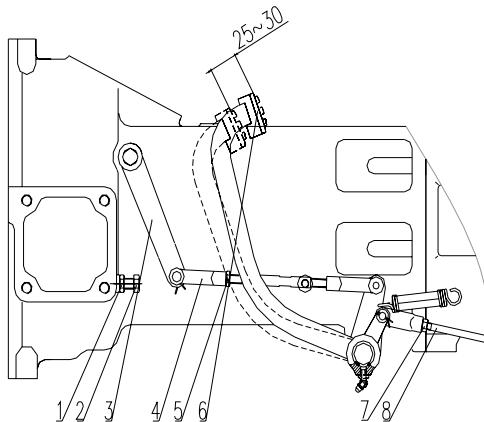
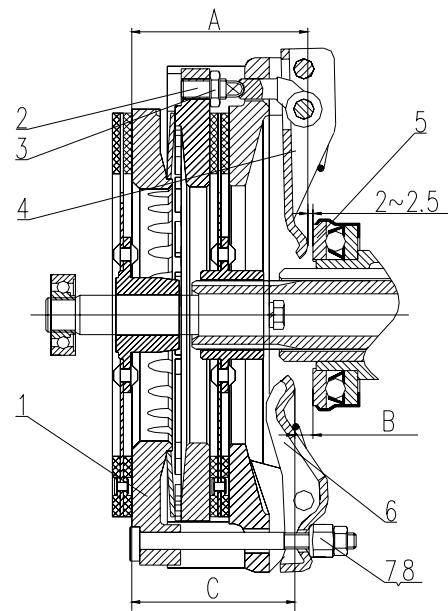

Figure 4-2 Schematic drawing of the operating system of the clutch
Figure 4-3 Double-action clutch
Loosen the nut (1) (as shown in Figure 4.2, unmarked dimension unit: mm), turn the stop screw (2) to make the working stroke below the clutch rocker arm (3) 23-26mm and then lock the nut (1).
(1) The adjustment method of the clutch pedal free stroke is as follows:
First loosen the locknut (3) on the adjusting nut (2) (as seen in Figure 4-3), then turn the adjusting nut (2) for the adjustment, making the distance between the working face of the three main clutch release lever (4) and the working face of the clutch pressure plate (1)  $A=86.5+0.2\text{mm}$  for 25-28hp models;  $A=101.5+0.2\text{mm}$  for 30-32hp models; and finally lock the locknut (3). Loosen the nut (7 and 8), turn the adjusting nut (8) to make the distance between the working face of the auxiliary clutch release lever (6) and the working face of the clutch pressure plate (1)  $C=78.5+0.2\text{mm}$  for 25-28hp models;  $C=93+0.2\text{mm}$  for 30-32hp models; and screw down the nut (8). Adjust the clutch push rod control fork 4 (as seen in Figure 4-2) to guarantee the free stroke of the clutch pedal is (25-30)mm and lock the screw nut (5) after the adjustment (see Figure 4-2).
(2) The adjustment method of the clutch pedal working stroke is as follows:
Loosen the screw nut (1) (as shown in Figure 4-2), turn the stop screw (2) to make the working stroke below the clutch rocker arm (3) 35-37mm and then lock the screw nut (1).
5. When installing the clutch, fill with lithium base grease in the internal cavity of the release bearing support (6). When dismantling the clutch, replace the release bearing (5) (Figure 4-3). Replace through-out bearing.